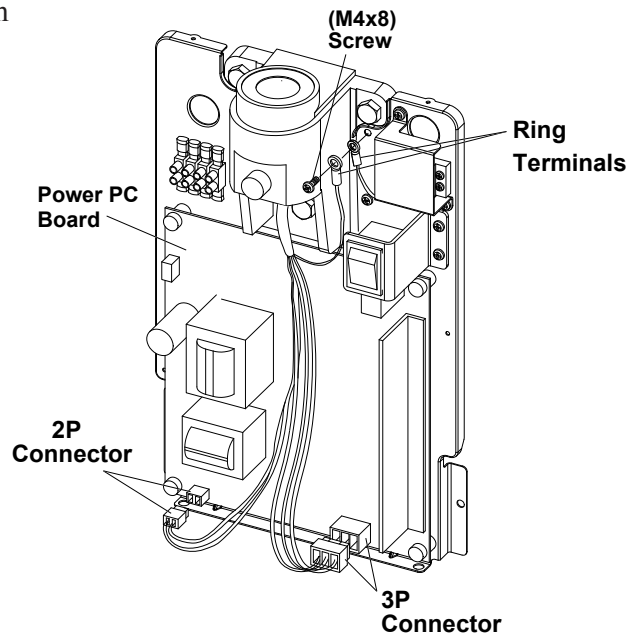

Fig. 3-8 Connecting 2P and 8P Connectors
5. Connect 2P and 8P connectors of horizontal arm cable to the respective connectors on power PC Board. **(Fig.3-8)**